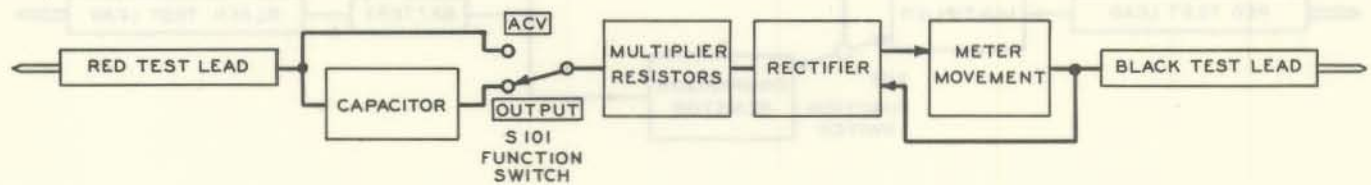

Figure 2-2. Functional Block Diagram of AC and Output Voltage Circuits.
b. AC AND OUTPUT VOLTAGE CIRCUITS. (See figure 2-2).—The circuits which measure AC and Output voltages are selected with the ACV and OUTPUT positions of function switch S-101. For voltages up through 500 volts, a range is selected with range switch S-102. For the 1000 volt range, the Red Test Lead connects the special 1000 V.A.C. jack, and the range switch, S-102, is not in the circuit. The AC voltage impressed across the circuit between the Red